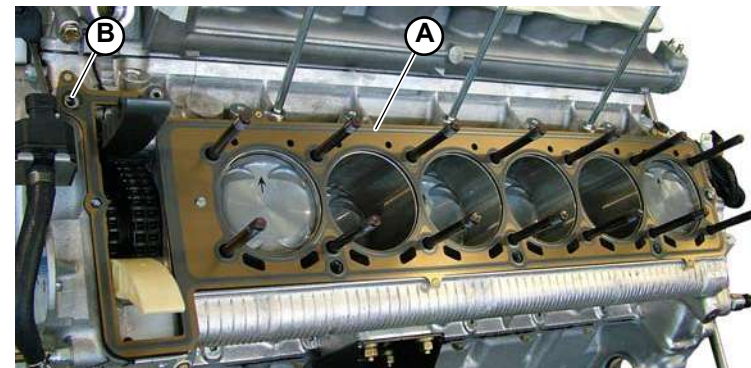

Fig.4
1. Position the new head gasket (**A-Fig.4**) taking care to carry out the step in an absolutely clean area (clean and degreased surfaces).
2. Install a new head oil flow O-ring (**B-Fig.4**).